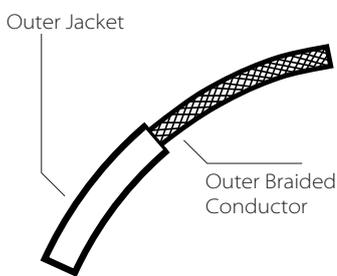

Fig. 1
3. Determine the height at which the fixture (F) is to be hung. Insert the steel cable (G) through the lock (H) and adjust to the desired length. To shorten the cable, push the cable up and it will be locked automatically. To lengthen the cable, lift up on the cable and push up on the lock. While keeping the lock depressed, lower the cable to the desired length. Release the lock to set.
- a. Connect the LED driver's (J) live wire to the live outlet box wire.
- b. Connect the LED driver's (J) neutral wire to the neutral outlet box wire.
- c. Connect the canopy's ground wire (green or uncoated) to the ground outlet box wire. If no ground is present in outlet box, connect canopy's ground wire to the mounting plate (K) using the green screw (included).
5. Install the mounting plate (K) to the outlet box (A) with outlet box screws (L).
6. Install canopy (M) to the mounting plate (K) with countersunk screw (N) using included screwdriver.
7. Use the screwdriver to loosen the slotted set screw (P). Adjust height of cord. Tighten the set screw to set. Reserve extra cord in the canopy (M).
8. Slide cord rings (Q) as close as possible to canopy (M) and fixture (F) (Figure 1).
9. Install trim (R) by threading it to fixture (H).
**Note:** If using optional shades, install shade (S) and trim (R) by installing trim through hole in shade, installing rubber gasket (T) to trim, and threading trim to fixture (F).
10. Restore power to the outlet box (A).
(Figure 1)
1. Make a 1" slice along the length of the cord's outer jacket (Fig. 1).
2. Carefully strip the outer jacket of the cord and keep the outer braided conductors intact (Fig. 1).